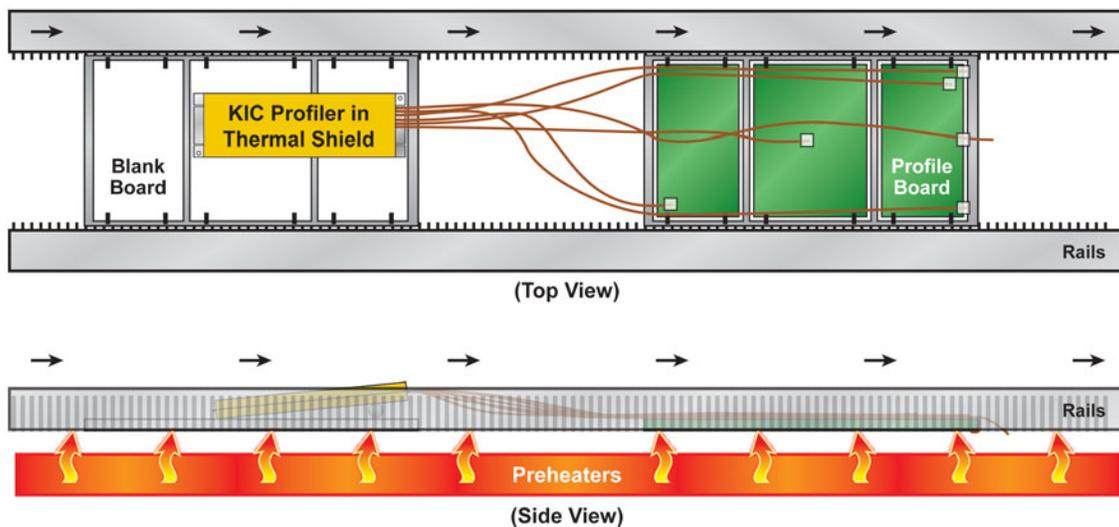

Figure 160: Profiling Wave Solder Using a KIC Profiler
- During the profile, you can run the *KIC Profiler* in front or behind the profile board. See Figure 160.
- Run the thermal shield upside-down to prevent any solder from contacting the *SlimKIC 2000*. See Figure 160.
- It is helpful to raise the *SlimKIC 2000* thermal shield at least 1/8" to 1/4" off the carrier board/palette in order to prevent any liquid solder from entering the *Thermal Shield*. See Figure 160.